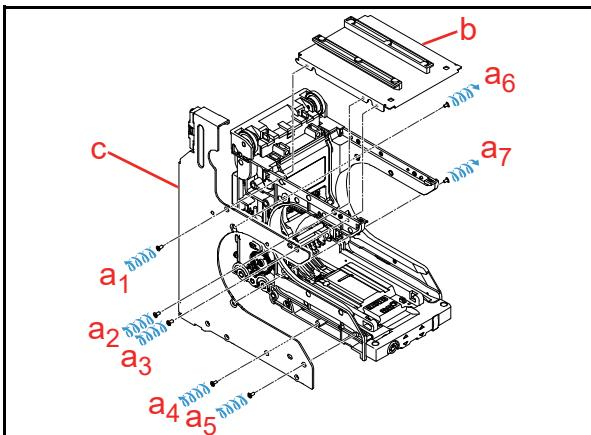

**Figure 4-14 Flap Board Removal (RT Frame Unit) 2**
3. Unplug the single (1) Connector (Figure 4-14 a).
4. Remove the two (2) Screws (Figure 4-14 b1 & b2).
5. Remove the Flap Board (Figure 4-14 c).